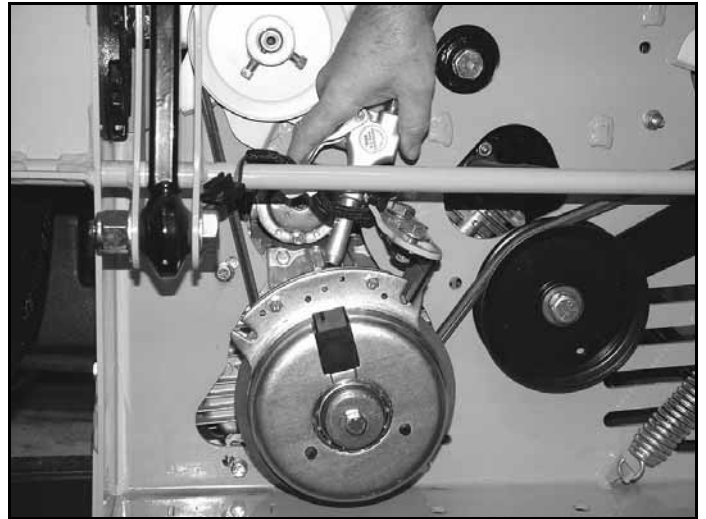

Figure 5-18
With engine off, key removed and clutch disengaged and using a pneumatic line, blow out any debris from under the brake pole and around the aluminum spacers. Figure 5-18
3. Using a pneumatic line, blow out any debris from under the brake pole and around the aluminum spacers. Figure 5-18